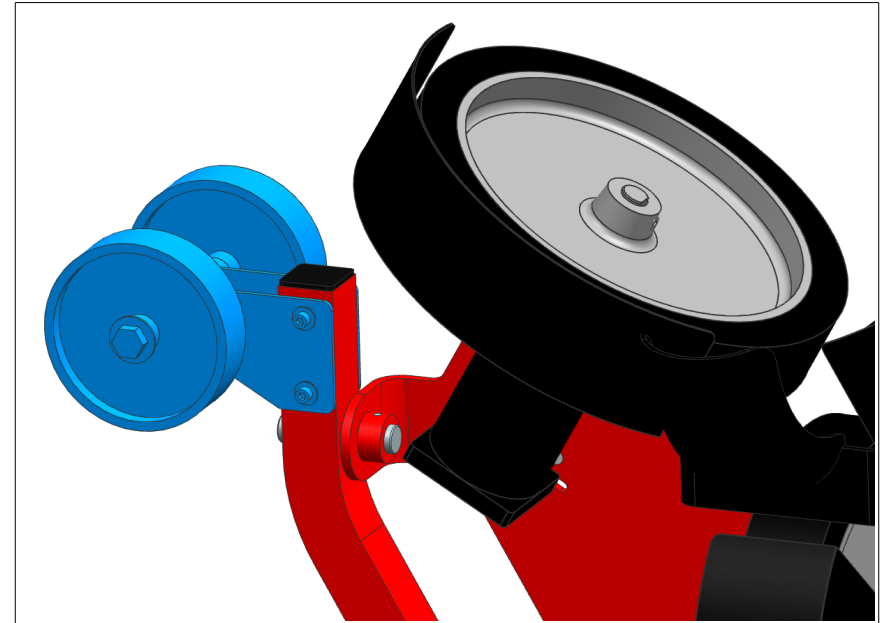

Figure 2: Transport wheel installation.
TRANSPORT WHEEL INSTALLATION The transport wheel sub-assembly attaches to the frame with (2) $\frac{1}{4}$ x 2-1/4 socket (Allen) head cap screws, washers, and hex nuts. The hardware is pre-installed in the transport wheel sub-assembly. See Figure 2. Installing the transport wheels is optional.